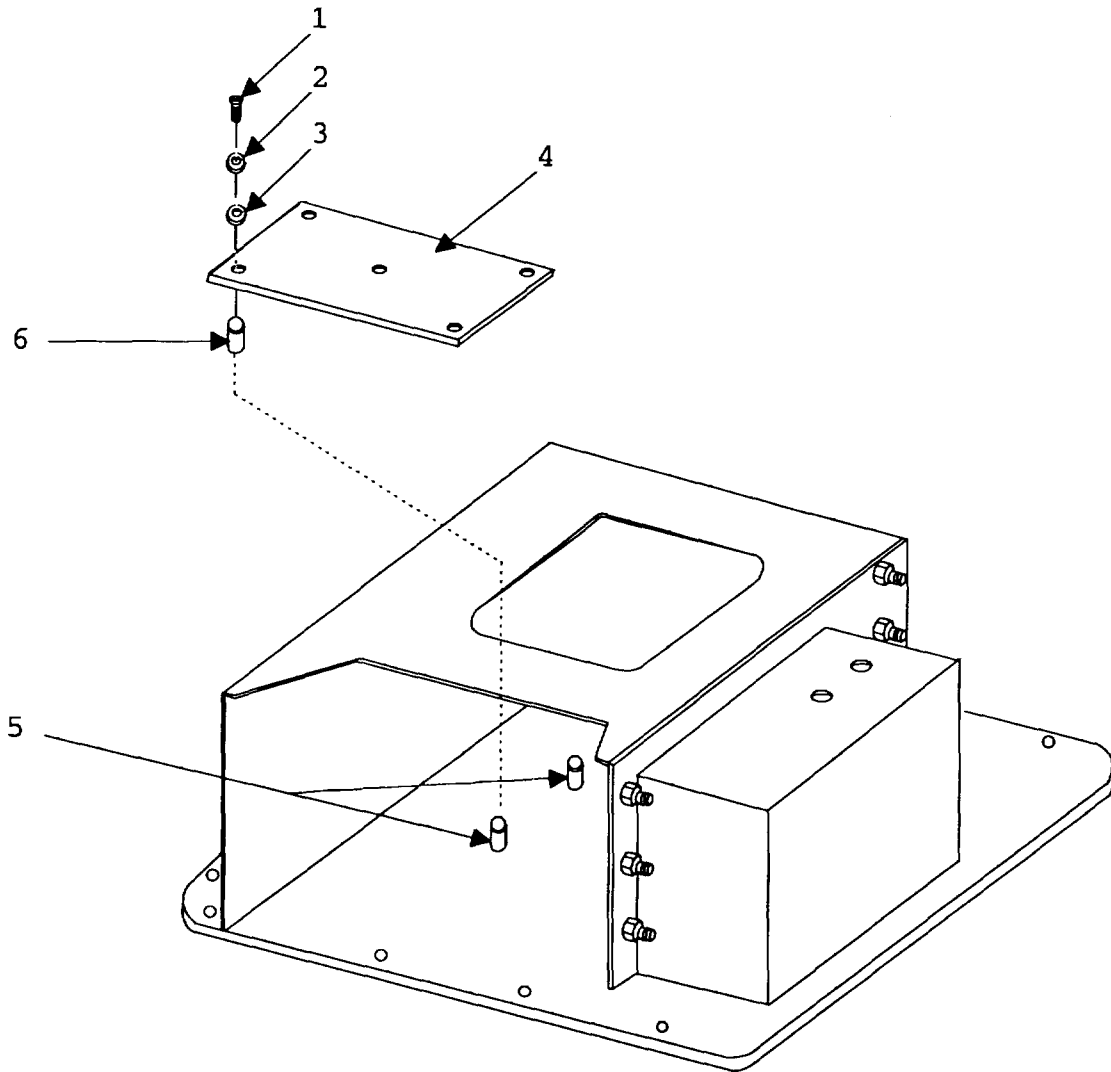

FIGURE 5-14. Panel Assembly Exploded View.
- (1) Remove PS CCA (refer to para. 5-10a).
- (2) Remove FTF CCA (refer to para. 5-9a).
- (3) Remove MCF CCA (refer to para. 5-8a).
- (4) Disconnect OSM ribbon cable from motherboard CCA.
- (5) Using offset No. 1 cross-tip screwdriver, remove five screws (1, Fig. 5-14), lock washers (2), flat washers (3), and spacers (6) securing OSM display CCA (4) to front panel.
- (6) Carefully remove damaged card by grasping card and pulling away from front panel.
- (1) Using lint-free cloth moistened with water or alcohol, wipe underside of window on front panel assembly and face of OSM display.
- (2) Place spacers (6, Fig. 5-14) in place on studs (5). Align new circuit card to the back of front panel.
- (3) Using offset No. 1 cross-tip screwdriver, install five screws (1), lock washers (2), and flat washers (3) to secure OSM display CCA (4) to front panel.